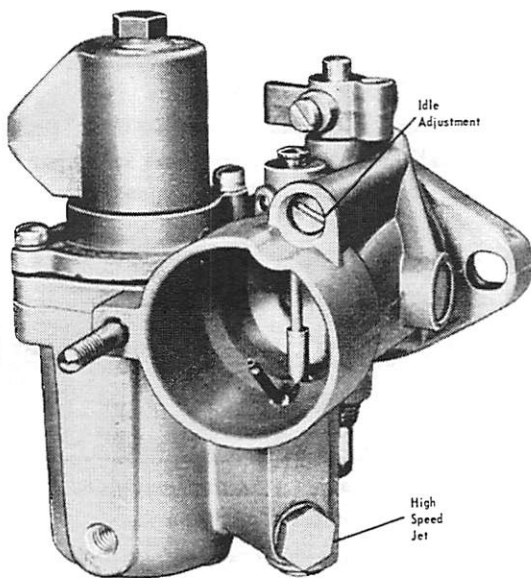

Figure 9. Idle Adjustment
4. With engine running at idling speed while in forward gear, turn low speed mixture adjusting needle counterclockwise until affected cylinders start to "load up" or fire unevenly due to over-rich mixture. (Figure 9)